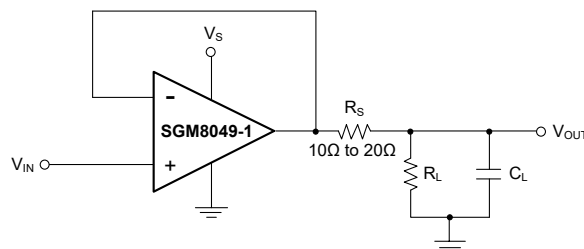

Figure 3. Series Resistor in Unity-Gain Buffer Configuration Improves Capacitive Load Drive
Follow configurations with load capacitance in excess of 30pF can produce extra overshoot and ringing in the output signal. Increasing the gain enhances the ability of the amplifier to drive greater capacitive loads. In unity-gain configurations, capacitive load drive can be improved by inserting a small (10Ω to 20Ω) resistor, R_S , in series with the output, as shown in Figure 3. This resistor significantly reduces ringing while maintaining direct current (DC) performance for purely capacitive loads. However, if there is a resistive load in parallel with the capacitive load, a voltage divider is created, introducing a DC error at the output and slightly reducing the output swing. The error introduced is proportional to the ratio R_S/R_L , and is generally negligible.